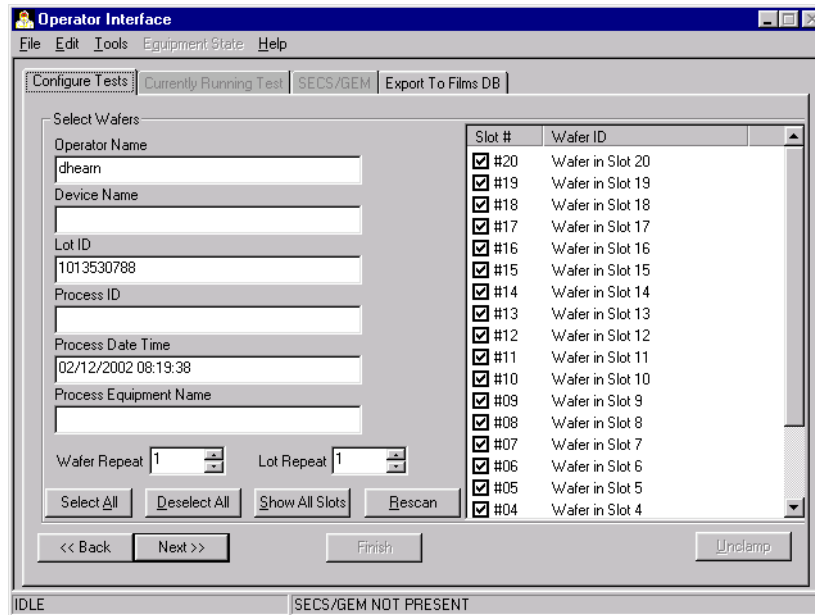

Figure 4-3: Select Wafers Page
- If the system detects a cassette, the program asks for confirmation of the selection. After receiving confirmation, the program displays the Select Wafers page (Figure 4-3).
After the cassette selection is confirmed, the robotic arm uses a laser to scan the cassette for wafers, and the Select Wafers page is displayed (Figure 4-3). The right-hand side of the page identifies the slots where wafers were found. The left-hand side of the page displays a series of fields that enable the operator to input data relevant to the test process and test wafers.